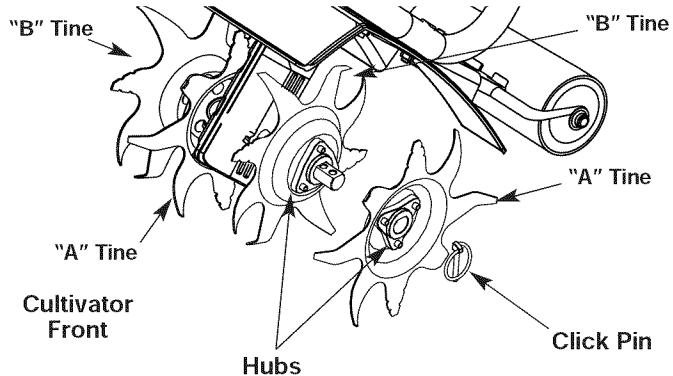

Fig. 12a
1. Put the On/Off Stop Control in the STOP (O) position and disconnect the spark plug boot from the plug.
2. Remove the click pin from each end of the tine shaft. Slide the tines off of the shaft (Fig. 12a).
5. Using Figures 12a and 12b for reference, slide on the new tines with the **hubs facing outward**. The tines are stamped "A" or "B." The tine order should be "B, A, B, A" from left to right when facing the cultivator from the front.